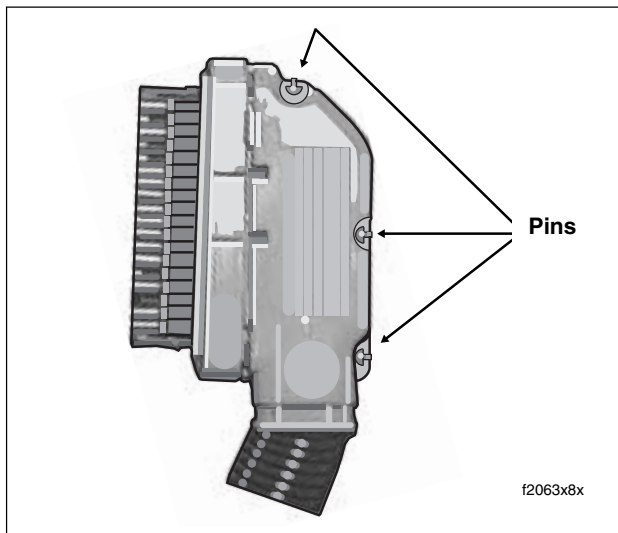

Figure B-35. Separate Halves of Socket Housing
3. Using a thin blade, gently pry at seam at back of socket housing to release three plastic pins from slots in housing. Separate and spread halves of socket housing. See Figure B-35.
2. Exercising caution to avoid pinching wires, press halves of socket housing together until three plastic pins fully engage slots in housing. See Figure B-35.